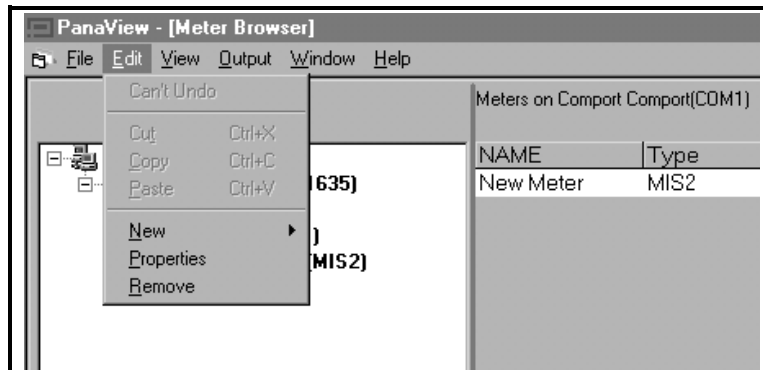

Figure 22: The Edit Menu.
3. With the desired meter highlighted, open the “*Edit*” menu as shown in Figure 22 below.